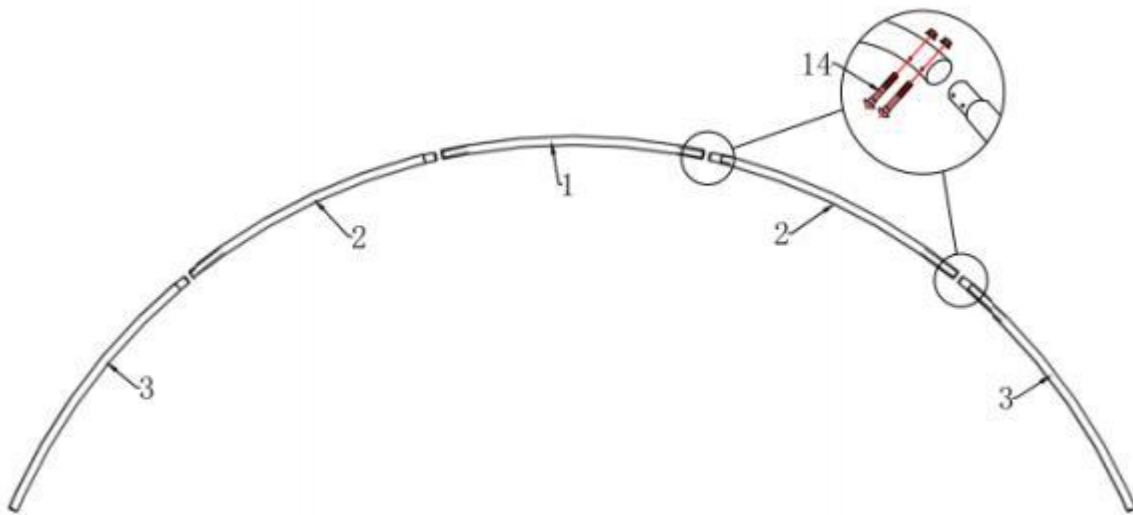

Figure 3
1. As Figure 3 shown, find Roof Bent Tube (No. 1), Upside Bent Tube (No.2) and Underside Bent Tube (No.3) . To connect them by Carriage Bolts (No.14.), which makes one group of arch. Please NOTE the direction of the bolt. DO NOT install the bolts on the top of the truss where the fabric will rest.